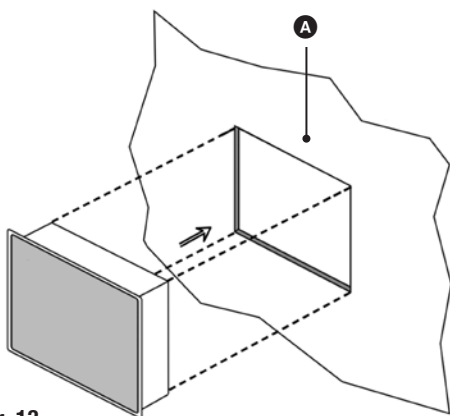

Fig. 13
1. Cut an aperture (see **Fig. 13**) in the control cabinet door or switch panel.